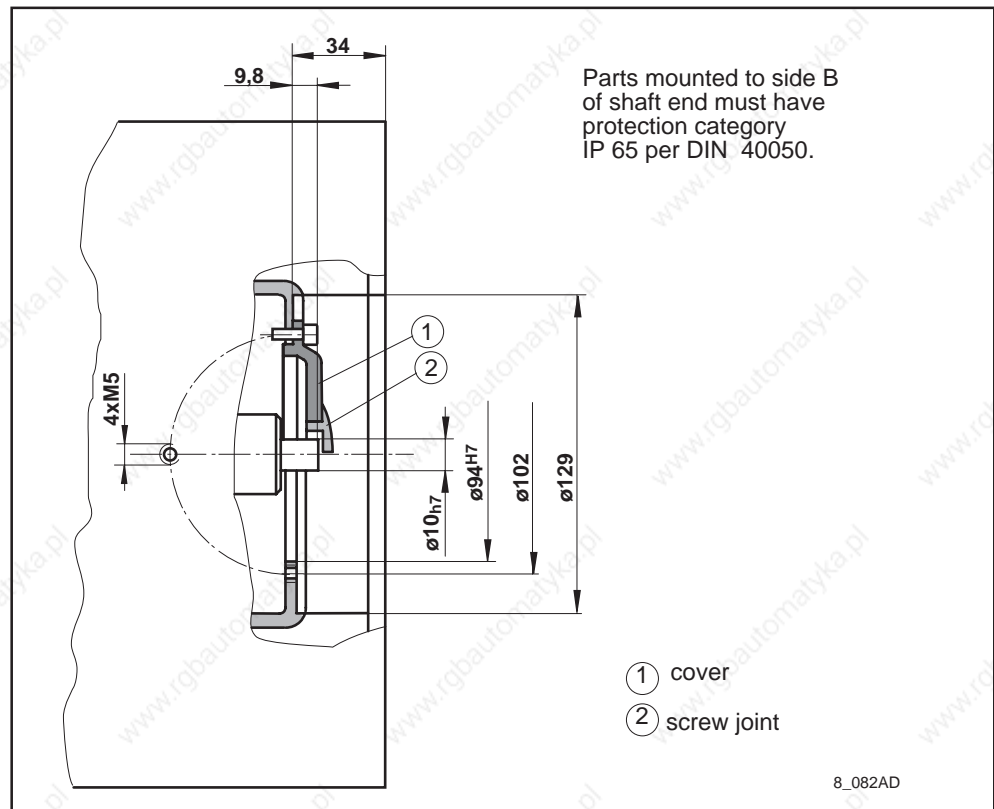

Fig. 8.8: Side-B shaft end 2AD160
- ④ flange dimensions per DIN 42948
- ⑤ ring screw M20 - DIN 580
- ⑥ add. thread M10 for ring screw second thread opposite
- ⑦ air flow A → B
- ⑧ air flow B → A
- ⑨ Motor feedback connection type 3 (flange socket), arranged per position of power connection
- ⑩ axial blower
- ⑪ Radial blower; position of radial blower may not be the same as power connection
- ⑫ Motor blower connection: terminal box with cable screw joint
- ⑬ Mounting distance (minimum for pulling in ventilating air)
- ⑭ B-side shaft end: see Fig. 8.8 for dimensions
- ⑮ air baffle